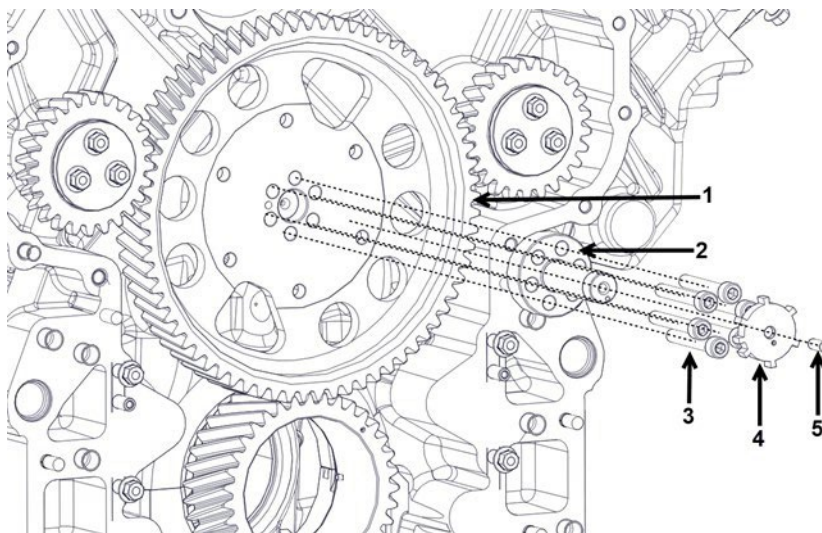

Figure 137.
2. Install the camshaft gear (Figure 137, Item 1) and the connecting shaft (Figure 137, Item 2) of the trigger wheel.
3. Apply a film of Loctite 242 to the bolts (Figure 137, Item 3) and tighten the bolts.
4. Install the trigger wheel (Figure 137, Item 4).